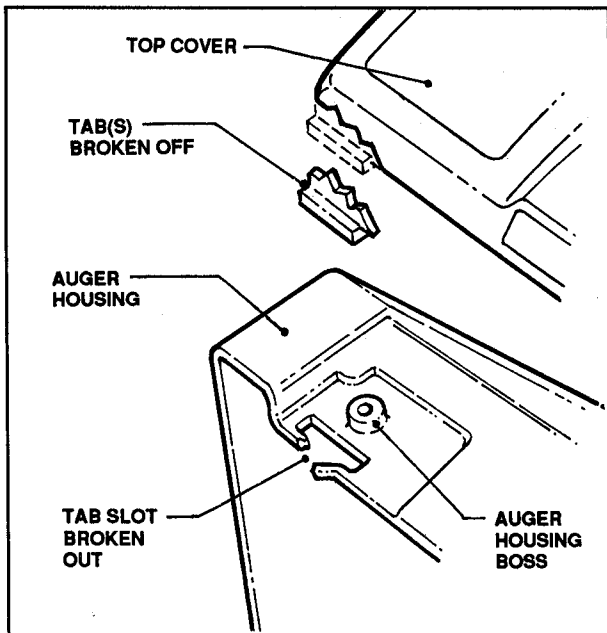

FIGURE 7.2
A. Top Cover is loose due to broken Tabs or Tab Slots. (See Figure 7.2 for example).